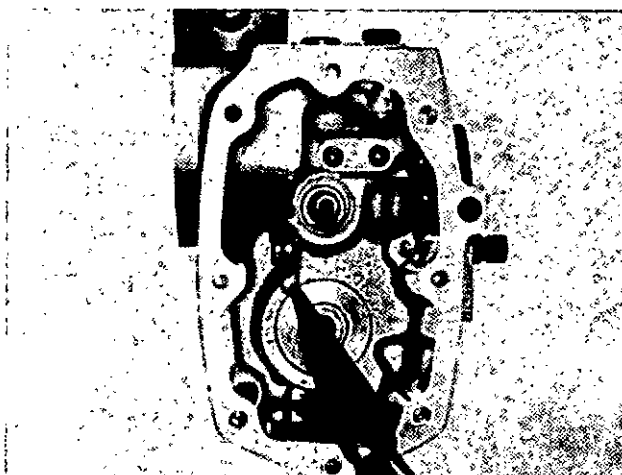

Fig. 8-9, (F5299). Install the retaining ring on the throttle shaft.
6. Install the retaining ring on the end of the throttle shaft, Fig. 8-9.